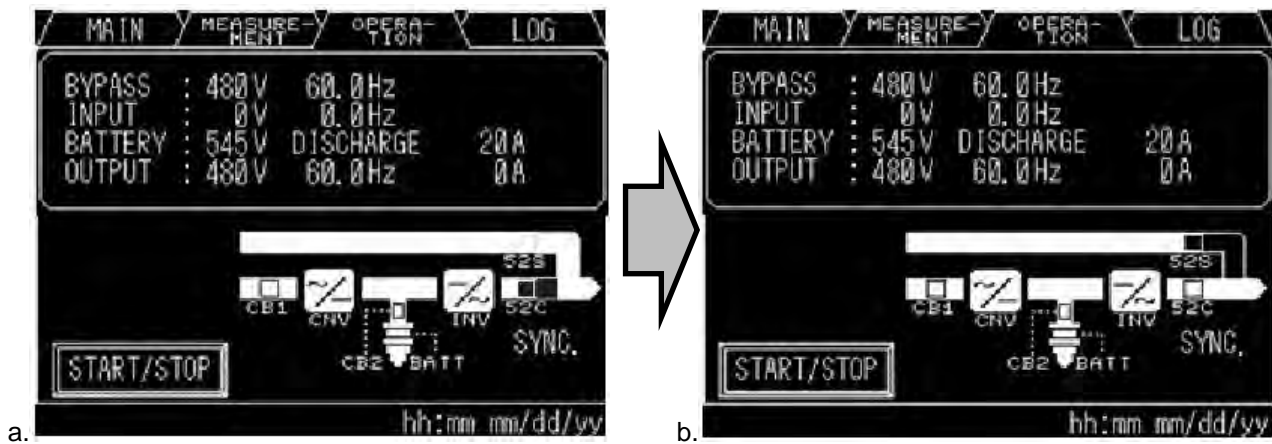

Figure 5-26 Transfer from Bypass to Online
*NOTE: On the initial startup of the G9000, both the Bypass (52S) and the Inverter (52C) contactors will be open (Figure 5-22b). After the initial startup, the UPS will subsequently startup in Bypass mode (Figure 5-26).*